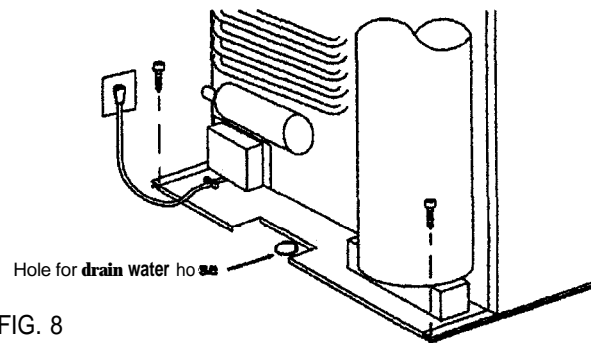

FIG. 8
STEP 3: Two screws Installed in the rear base. See FIG. 8.
A hole must be drilled through flooring see FIG. 8. The hole must be drilled in the cut out opening of the base plate at the rear of the refrigerator. The installer **MUST** make sure that the hose does not kink when run through the floor. Seal around the hose that goes through the drilled hole. If a longer hose than supplied is required to get the water to drain outside of the vehicle, the installer will have to supply the extra length of hose.